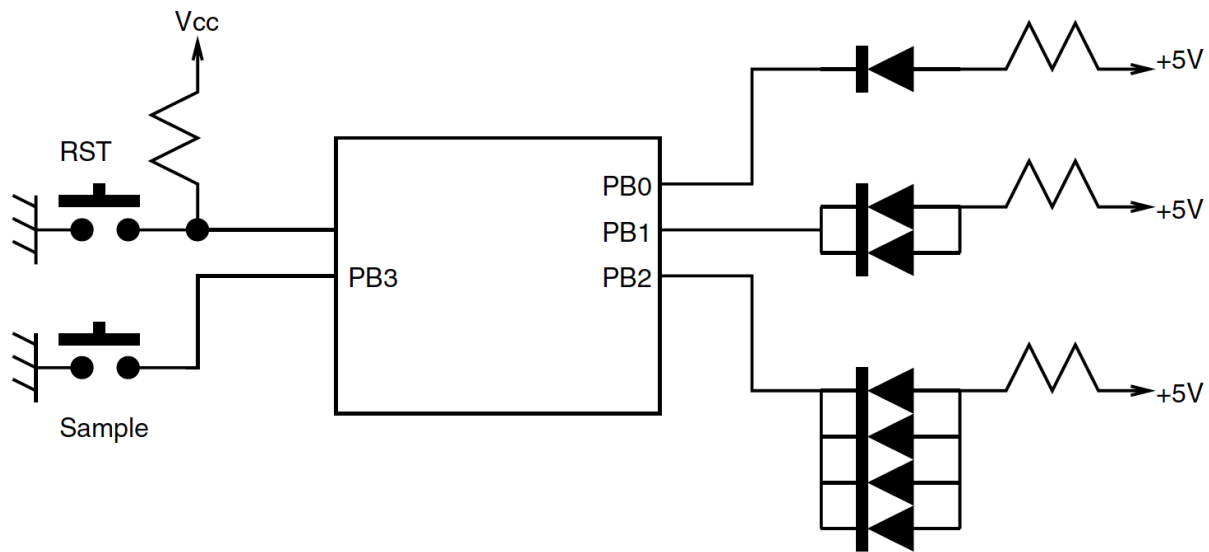

FIGURE 5. Block diagram for the electronic dice using an ATtiny2313 MCU
- The final circuit of the device is shown in Figure 5. Calculate the values of resistors that are required and draw, test and virtually prototype the device in proteus.